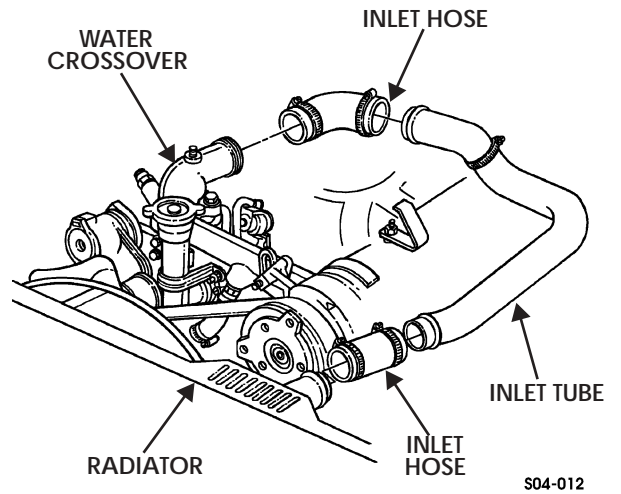

Figure 4-14: Radiator Inlet Hoses
2. Remove inlet hose from inlet tube and water crossover (Figure 4-14).
1. Install inlet hose on inlet tube and radiator (Figure 4-14).